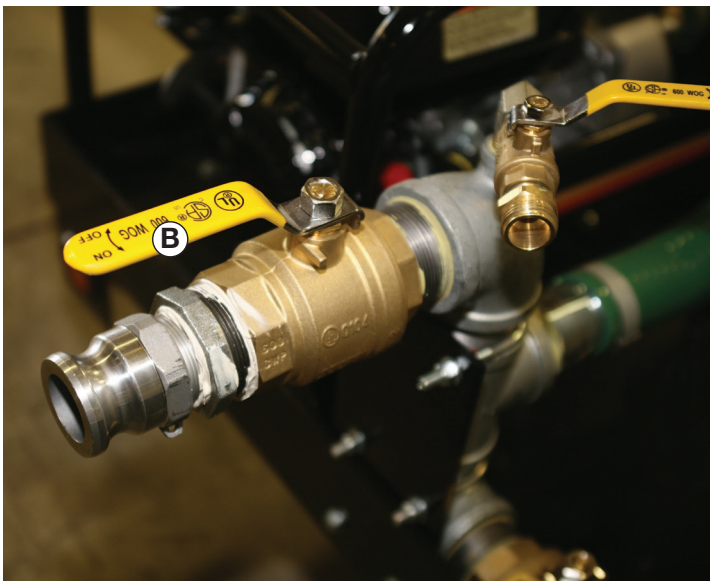

Figure 2
When using the fire hose valve, (figure 2) quick couple the fire hose (E) (figure 3) to the valve, open the fire hose valve (B) while closing the other two valves (A) and (C). The red spray nozzle (F) (figure 4) can be threaded to the end of the fire hose and adjusts from wide spray to straight stream by turning the body of the nozzle.